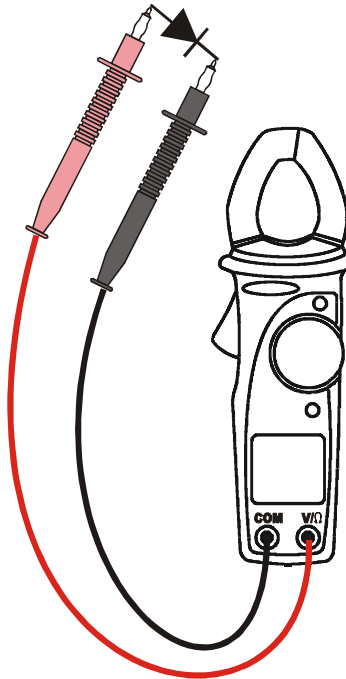

Fig. 9: Use of clamp for diode test
2. Insert the test leads into the jack, the red plug into V/ $\Omega$  jack, and black plug into COM jack, like showed in Fig. 9.